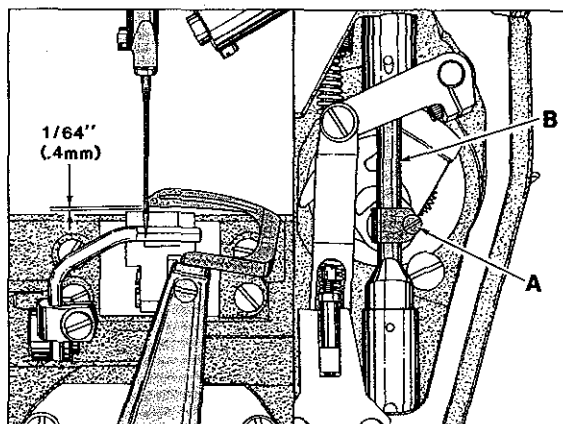

Fig. 8
Turn handwheel in operating direction until tip of looper is even with left side of needle. TOP of needle eye should be $1/64$ inch (.4mm) below TIP of looper (as shown in Fig. 8). Adjustment can be made by loosening screw (A, Fig. 8), move needle bar (B) up or down as required, retighten screw (A) to 8 in-lbs (9.22cm/kg).